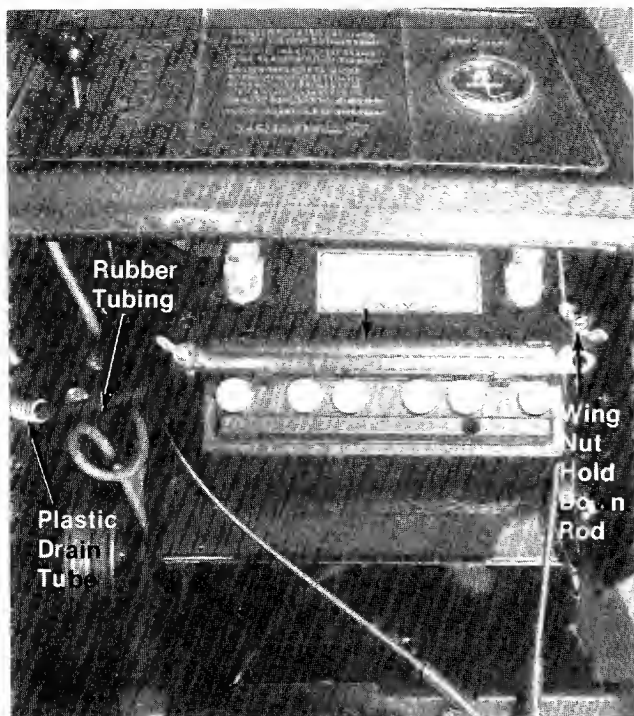

**FIGURE 4**
1. Place the battery in the battery case with the terminals to the rear. (See figure 4.)